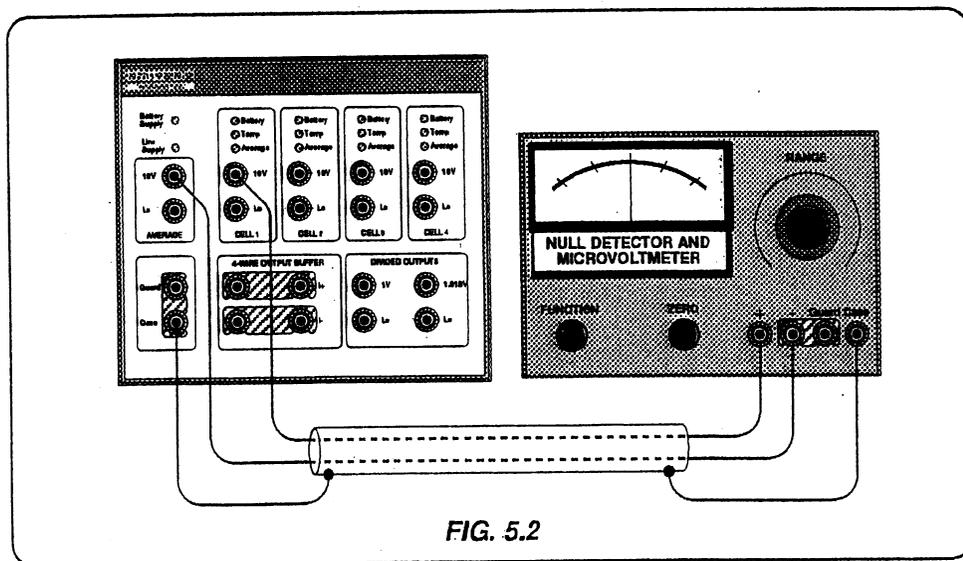

FIG. 5.2
5. Connect the null detector to the 4910/4911 as shown in Fig 5.2.